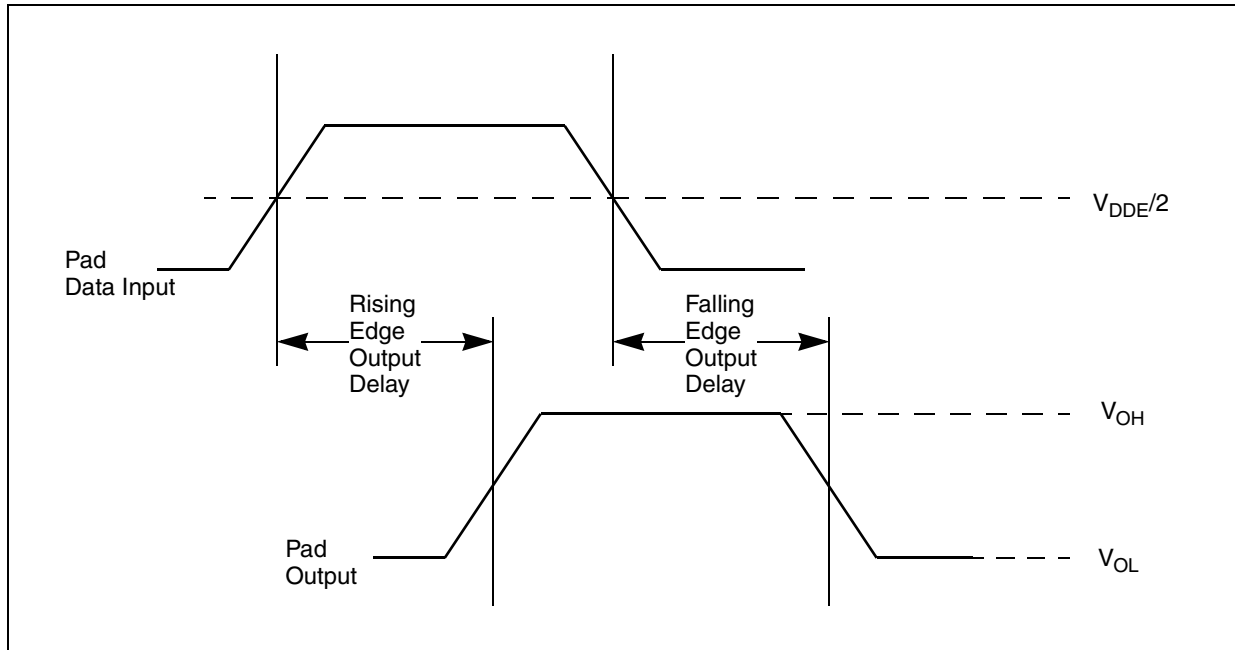
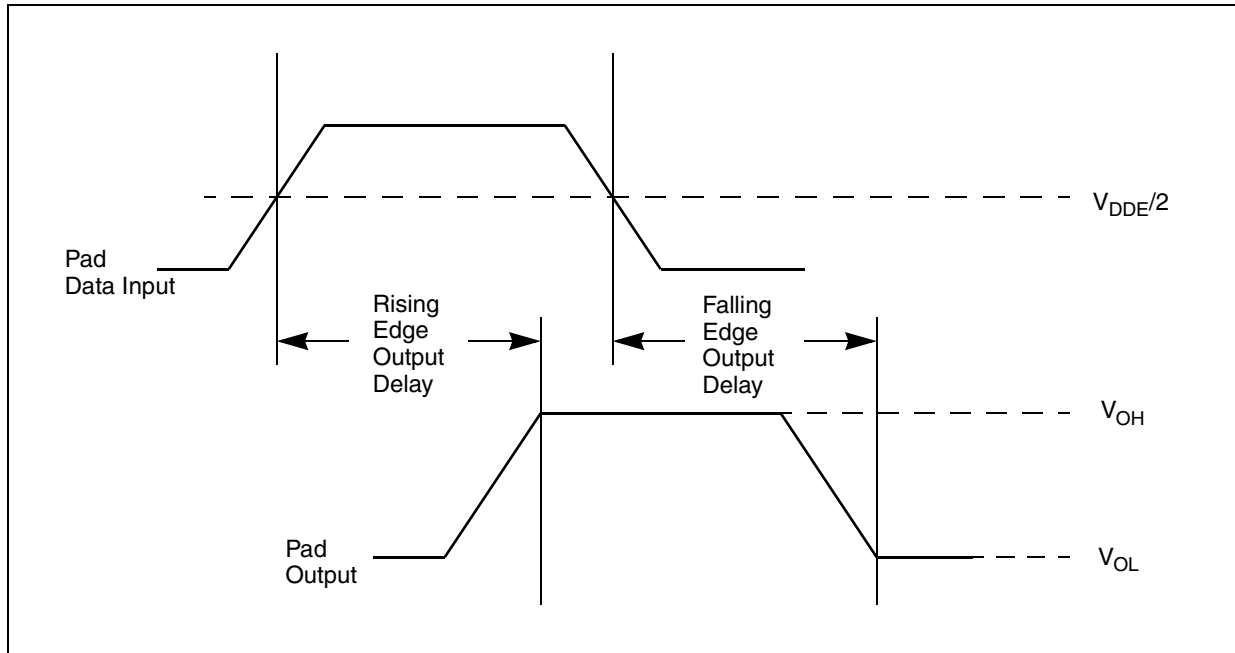

Figure 9. Pad output delay—Fast pads
Figure 10. Pad output delay—Slew rate controlled fast, medium, and slow pads
⁷ Output delay is shown in Figure 9 and Figure 10. Add a maximum of one system clock to the output delay for delay with respect to system clock.
- ⁷ Output delay is shown in Figure 9 and Figure 10. Add a maximum of one system clock to the output delay for delay with respect to system clock.